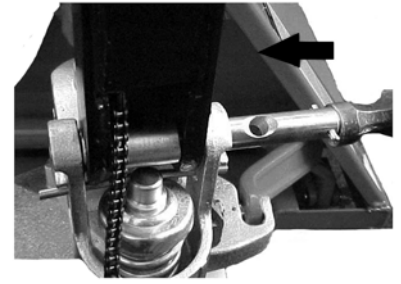

Fig. 6: Axle assembling
a) Insert the tiller arm(1) into the pump piston, then use a hammer to insert the axle with hole into the hydraulic pump and tiller arm from the right to the left (Fig. 6 ).